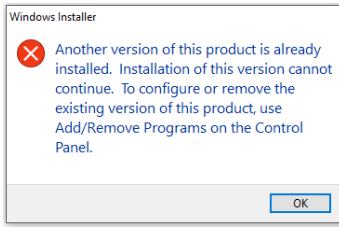

Figure 2: Installation error message
2. Run the **CBRSetup** file and follow the prompts on the screen. The software should detect any previous versions and uninstall them automatically. If a Windows Installer message appears (Figure 2), follow the prompts and uninstall the previous version of the software. Once installation is complete, close the installer.